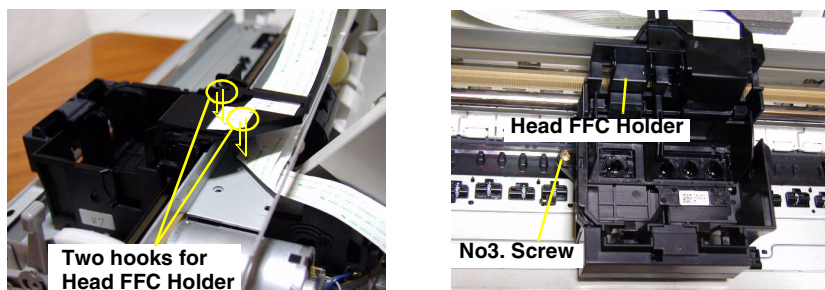

Figure 4-7. Removing the Printhead
- 5) Remove the Head FFC Holder from the CR Assembly by releasing two hooks. Refer to Figure 4-7.